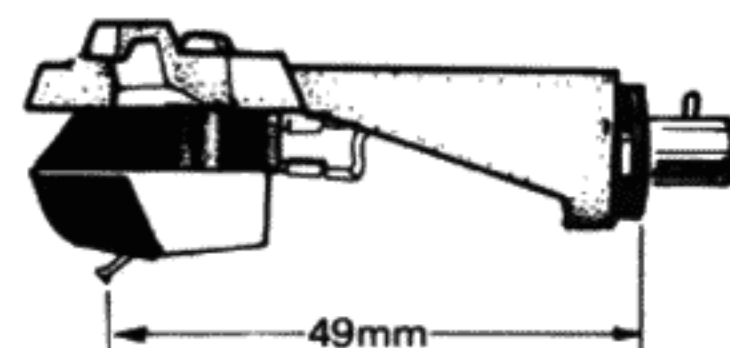

Fig. 3
4. Adjust the position of the cartridge so that the stylus and the connector section of the headshell are 49mm apart and tighten up the screws. Make sure that the cartridge does not tilt to one side when you attach it (see Fig. 3).